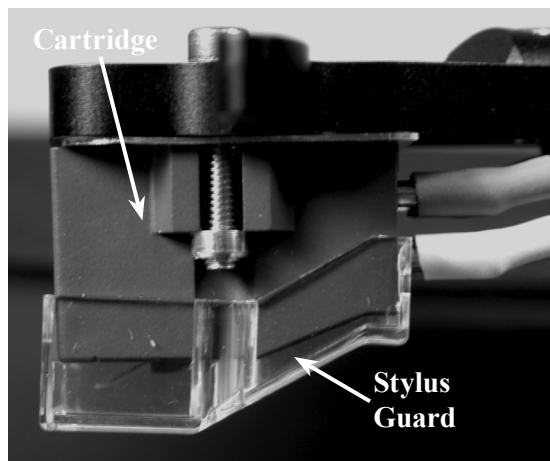

Figure 14
10. Carefully slide off the Stylus Guard from the cartridge by pulling the cover straight down. Refer to figures 14 and 15.